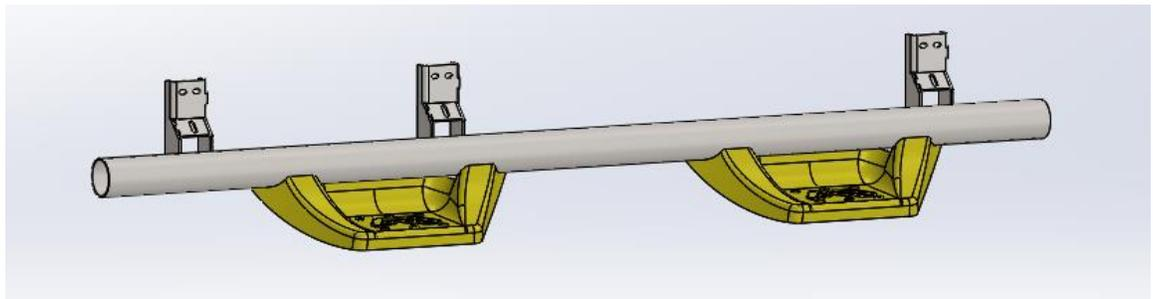

Figure 2 - DRIVER SIDE FABFOURS SIDE STEP
- 2) Identify the drive side Fab Fours Side Step. The drive side Fab Fours Side Step is shown in Figure 2 - DRIVER SIDE FABFOURS SIDE STEP.